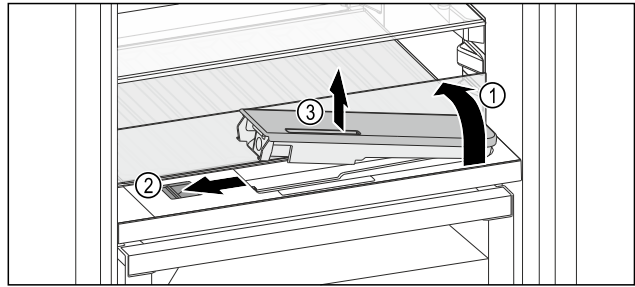

Fig. 150
- ▶ Lift the glass panel and fold towards the rear until it clicks into place Fig. 150 (1).
- ▶ Slide the slider Fig. 150 (2) to the left.
- ▶ Remove the water tank Fig. 150 (3).